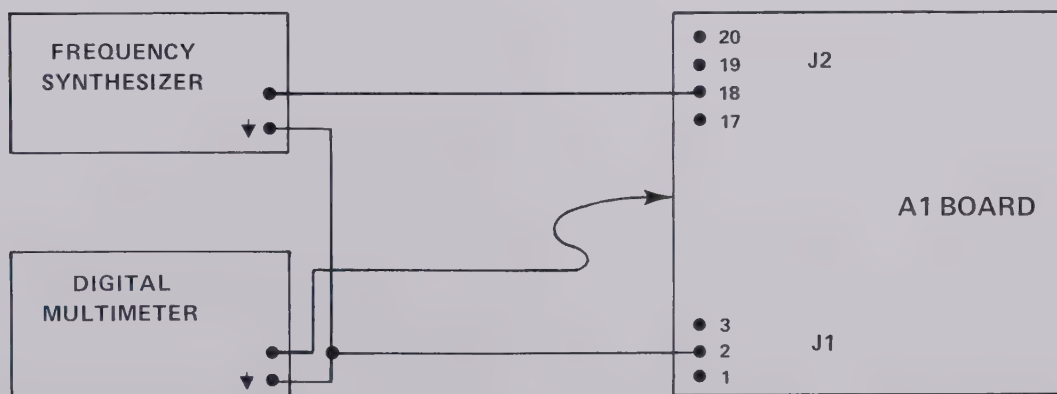

Figure 2-2. Equipment Set-Up
- Step 1: Connect the A1 board to the frequency synthesizer and digital multimeter as shown in Figure 2-2.